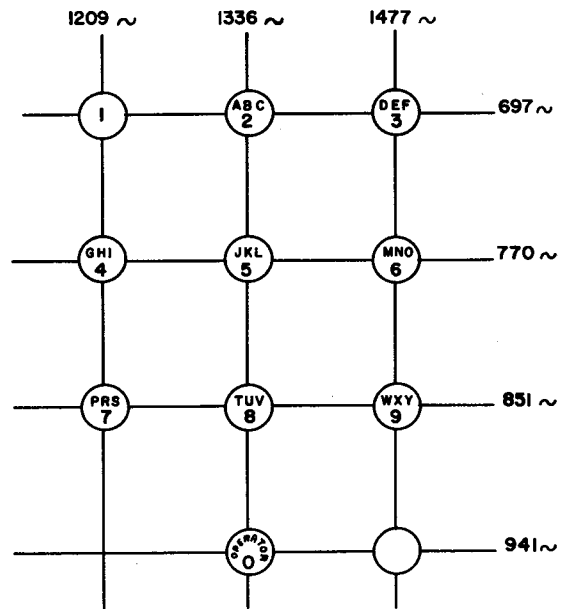

Fig. 4 - Dial Frequencies
**3.03** Two frequencies are generated simultaneously when a pushbutton is depressed. Fig. 4 shows the relationship of pushbuttons to selected frequencies.